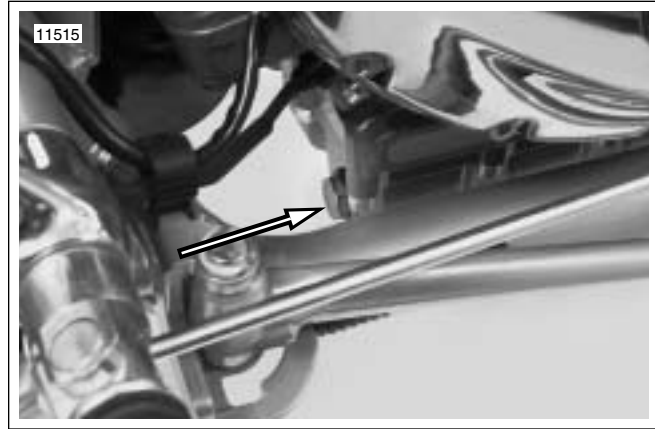

Figure 1-21. Oil Drain Plug (typical)
3. See Figure 1-21. Remove the engine oil drain plug at front of oil pan on left side. Allow oil to drain into a suitable container.
6. See Figure 1-21. Install oil drain plug.